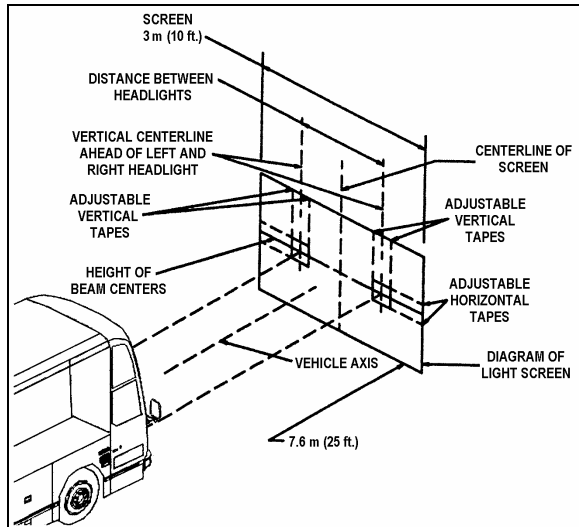

FIGURE 34: ALIGNMENT OF HEADLIGHT AIMING SCREEN
3. The headlight centerlines shall be spaced either side of the fixed centerline on the screen by ½ the lateral distance between the light source centers of the pertinent headlights. The horizontal tapes should be located on the screen at the upper and lower limits called for in the specification with reference to the height of beam centers and the plane on which the vehicle rests, not the floor on which the screen rests (Fig. 34).